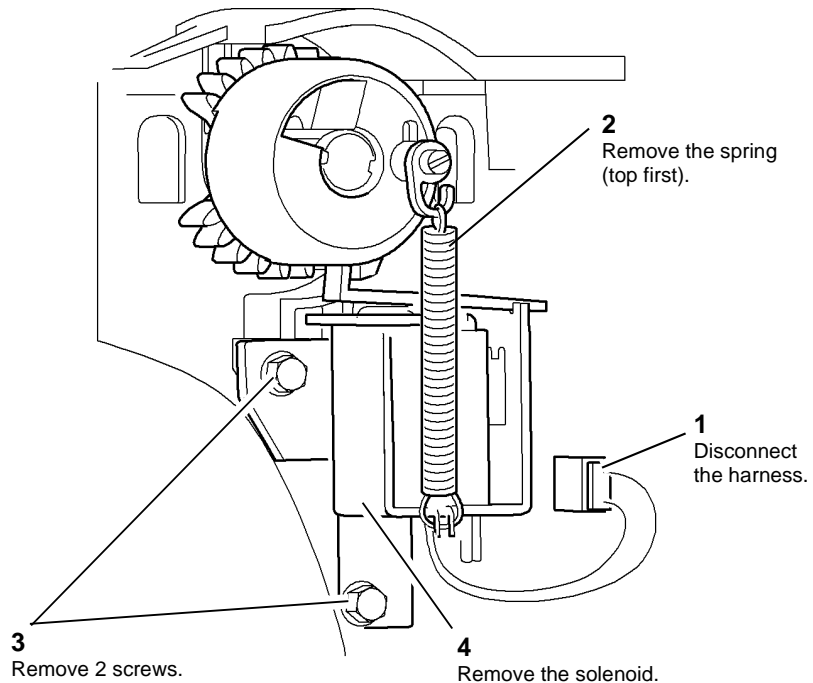

Figure 1 Solenoid removal
2. Remove the bypass feed solenoid, Figure 1.